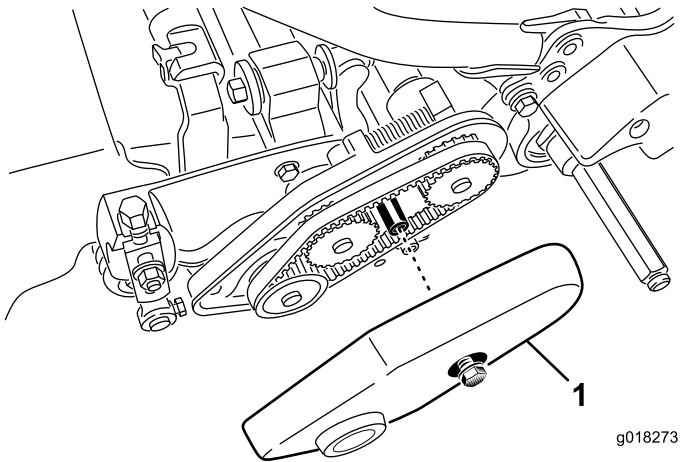

Figure 45
1. Loosen the flange bolt securing the belt cover and remove the belt cover to expose the belt (Figure 45).